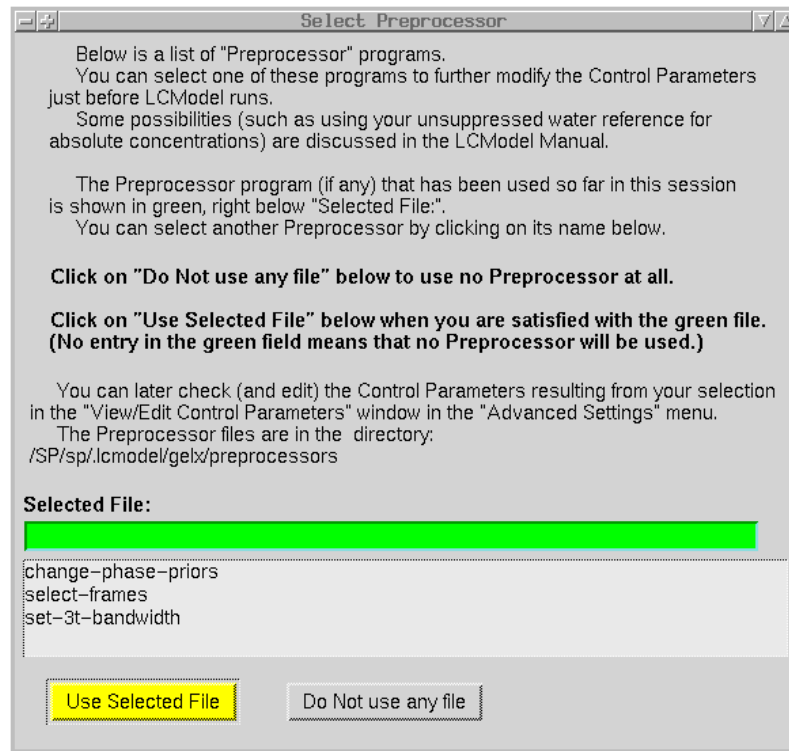

Figure 7.15: Here you can view and/or change the Preprocessor that will be used by LCMgui.
Only files in the directory `$HOME/.lcmodel/???/preprocessors/` will be available as Preprocessors in Figure 7.15. Here, `???` = `bruker`, `ge5`, `gelx`, `marconi`, `philips`, `siemens`, `toshiba`, `varian`, or `other`, depending on which type of data you selected in Fig 6.3.
- Click on “Change Preprocessor” to produce the window in Fig 7.15. (If there is no Preprocessor script in the directory, then you will be told this and given the chance to continue.)
**change-phase-priors** : GE automated Probe spectra usually need only very small phase corrections, and this prior information is used by default. However, this can cause huge phasing errors, if you have non-standard data requiring large phase corrections. If analyses of non-standard data show poor phasing, then you should first edit the file `$HOME/.lcmmodel/???.preprocessors/change-phase-priors` as explained in the file (where `???` = `ge5` or `gelx`). Then select this Preprocessor in Fig 7.15.
**set-3t-bandwidth** : LCMgui assumes that the bandwidth of 3T data is 5000Hz. If this is not the case with your 3T data, then edit the file `$HOME/.lcmmodel/gelx/preprocessors/set-3t-bandwidth` as instructed in the comments there. Then select this Preprocessor in Fig 7.15.